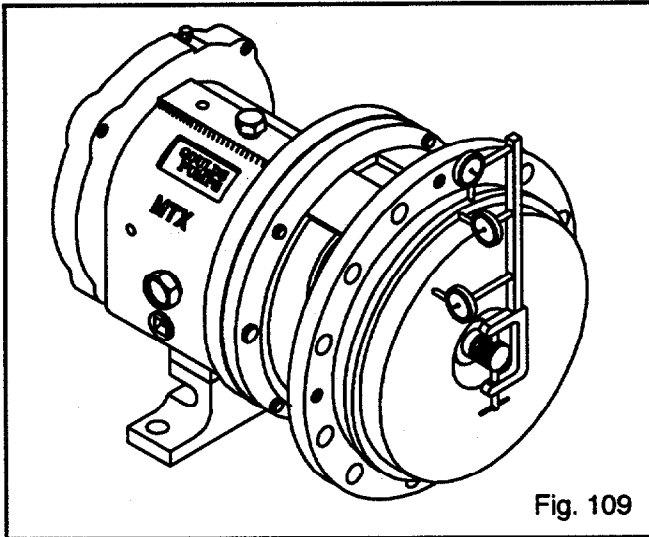

Fig. 109
1. Install seal chamber cover (184) with nuts (370H).
2. Check seal chamber cover run-out. Rotate indicator through 360 degrees. If total indicator reading is greater than 0.005 in. (.13 mm), determine cause and correct before proceeding (Fig. 109).